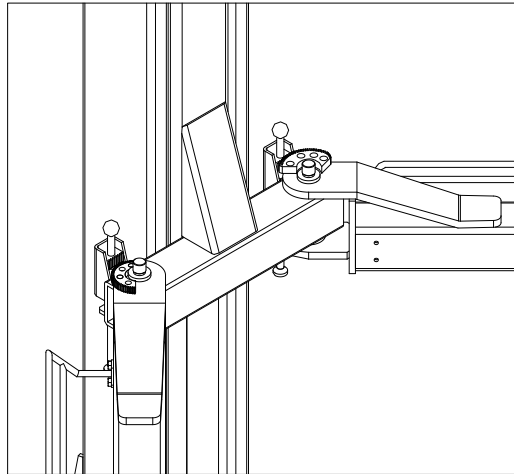

Fig.41
1. Press the up-push button, raise the carriages to a height of about 70cm off the ground, then press the lock push button, **SET THE MAIN SWITCH (IG) TO POSITION 0 AND CUT OFF THE POWER SUPPLY TO THE LIFT.**
3. Mount the arms into the carriage supports and inset the dowel pins into the support holes as shown in Fig.32a and Fig.41, **notice the entry of both arms is the same with the entry of the vehicle.**